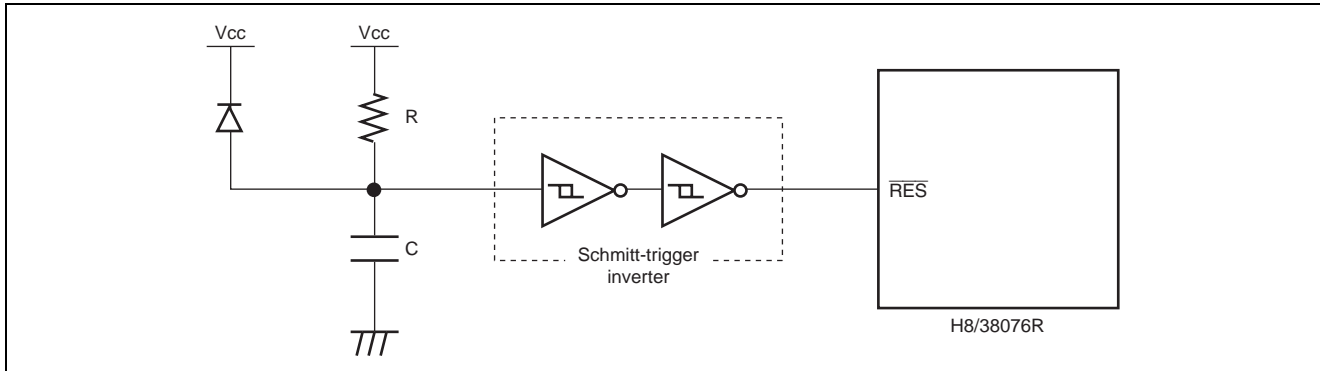

Figure 1 Power-On Reset Operation Using External Reset Circuit
- Power-on reset operation is implemented using an external reset circuit as shown in figure 1.